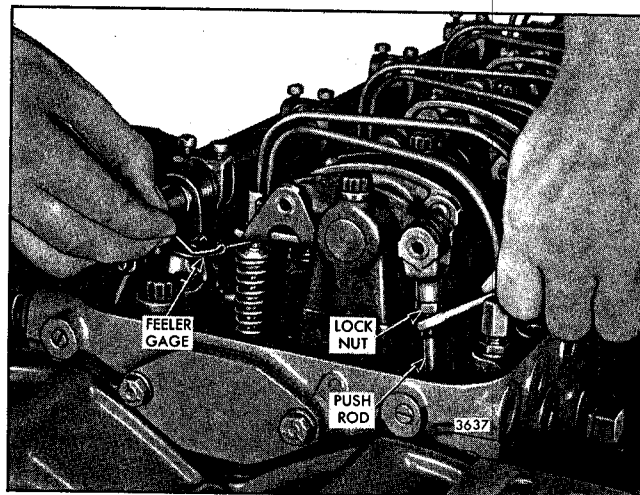

Fig. 2 - Adjusting Valve Clearance
5. Place a .027" feeler gage, J 9708, between the end of one valve stem and the rocker arm bridge (Fig. 2). Adjust the push rod to obtain a smooth pull on the feeler gage.